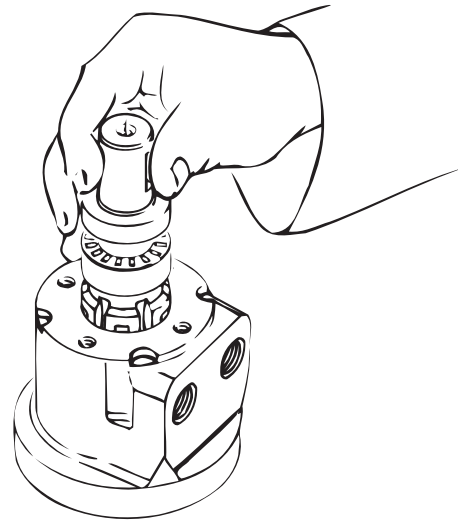

Figure 10
14. Remove output shaft from housing, see Fig. 10